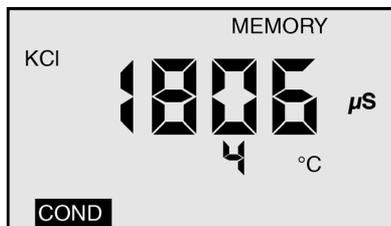

Figure 5
2. The **MEMORY** icon appears and the temperature display is briefly replaced by a number (1-100) that shows the position of the record. Figure 5 shows a reading of $1806\mu\text{S}$ stored in memory record # 4.